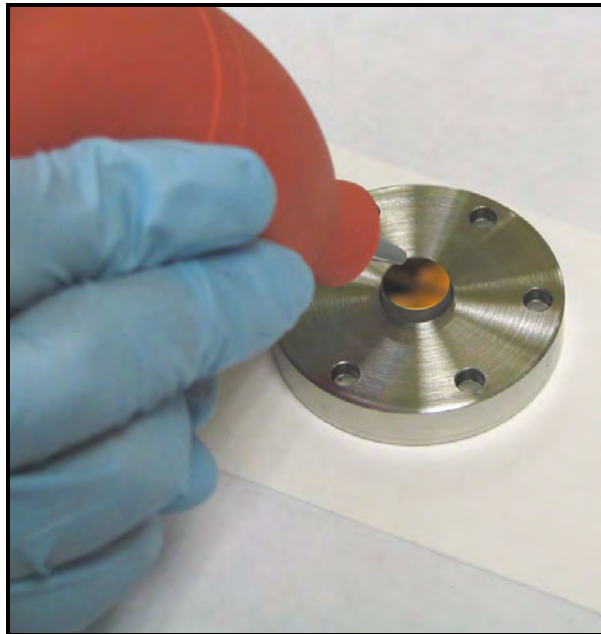

Figure 77: Blowing Air onto the Mirror
6. If the mirror is contaminated, the first step in cleaning it is to use the air blower to blow away any particulate matter on the mirror surface. Place the mirror assembly on a flat surface and repeatedly puff the air blower to force dry clean air onto the mirror surface (see Figure 77).